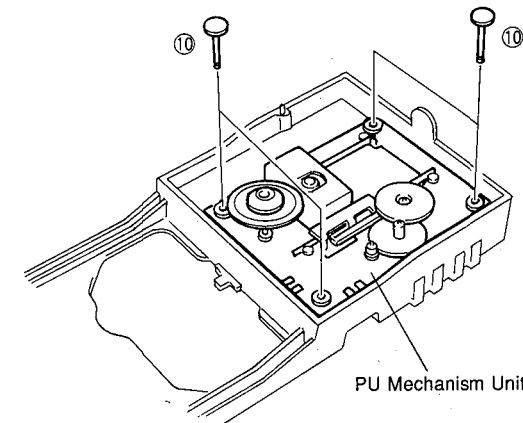

Fig. 4
- Pull out 4 Pins (10) and then remove the PU Mechanism Unit in Fig. 4.